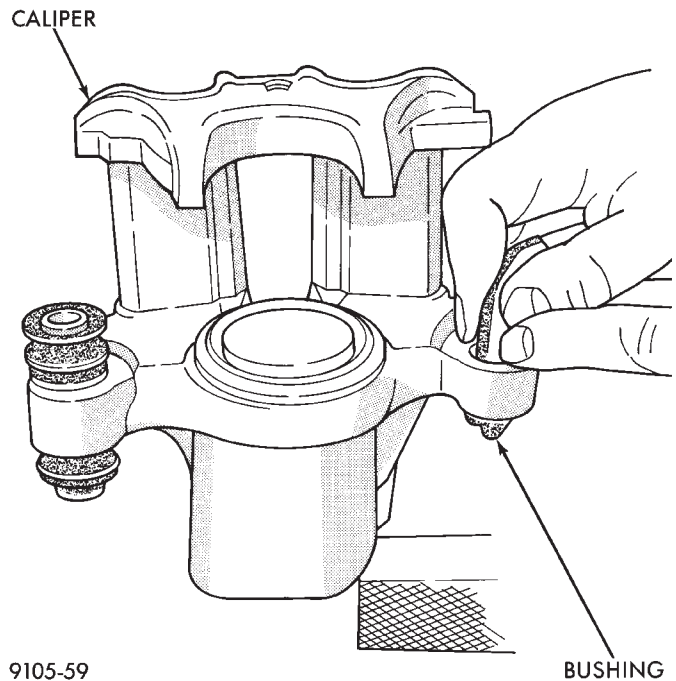

Fig. 5 Installing Caliper Guide Pin Sleeve Bushings
(2) Using your fingers insert the folded bushing into the caliper assembly (Fig. 5). **Do not use a sharp object to perform this step do to possible damage to the bushing.**